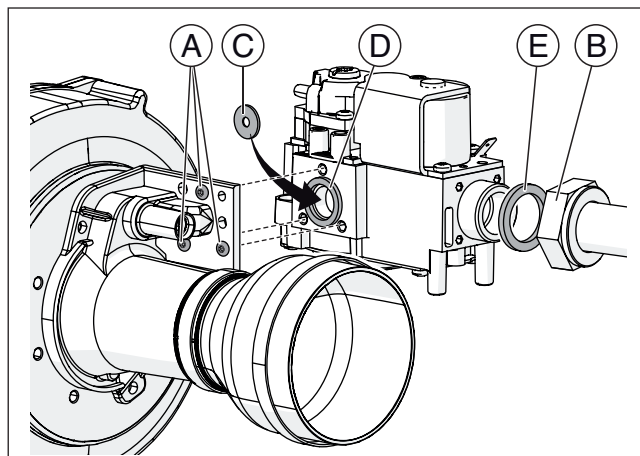

Fig. 22
- ▶ Unscrew the 3 screws 'A' and the swivel joint 'B' indicated in Fig. 22 to separate the valve from the fan